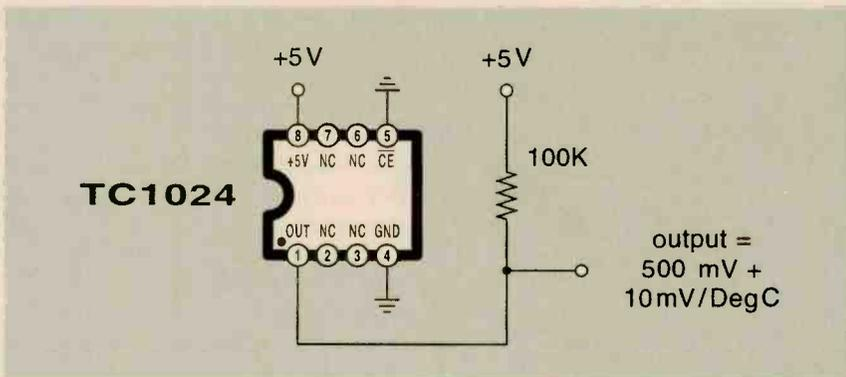

FIG. 4—THE TELCOM TC1024 is an analog-output temperature sensor.
**Telcon TC1024:** This one, shown in Fig. 4, is an older temperature-to-voltage converter IC, working over a -40°C to +125°C range. 2.0-degree accuracy and 0.8-degree linearity is offered. Output voltage is ten millivolts-per-degree C. Single-supply voltage can range from 2.2 to 12 volts. The operating current is typically 40 microamperes active and 5 microamps in shutdown mode. There is a 0.5-volt offset in the output. A companion TC1073 device offers zero offset, but requires use of a